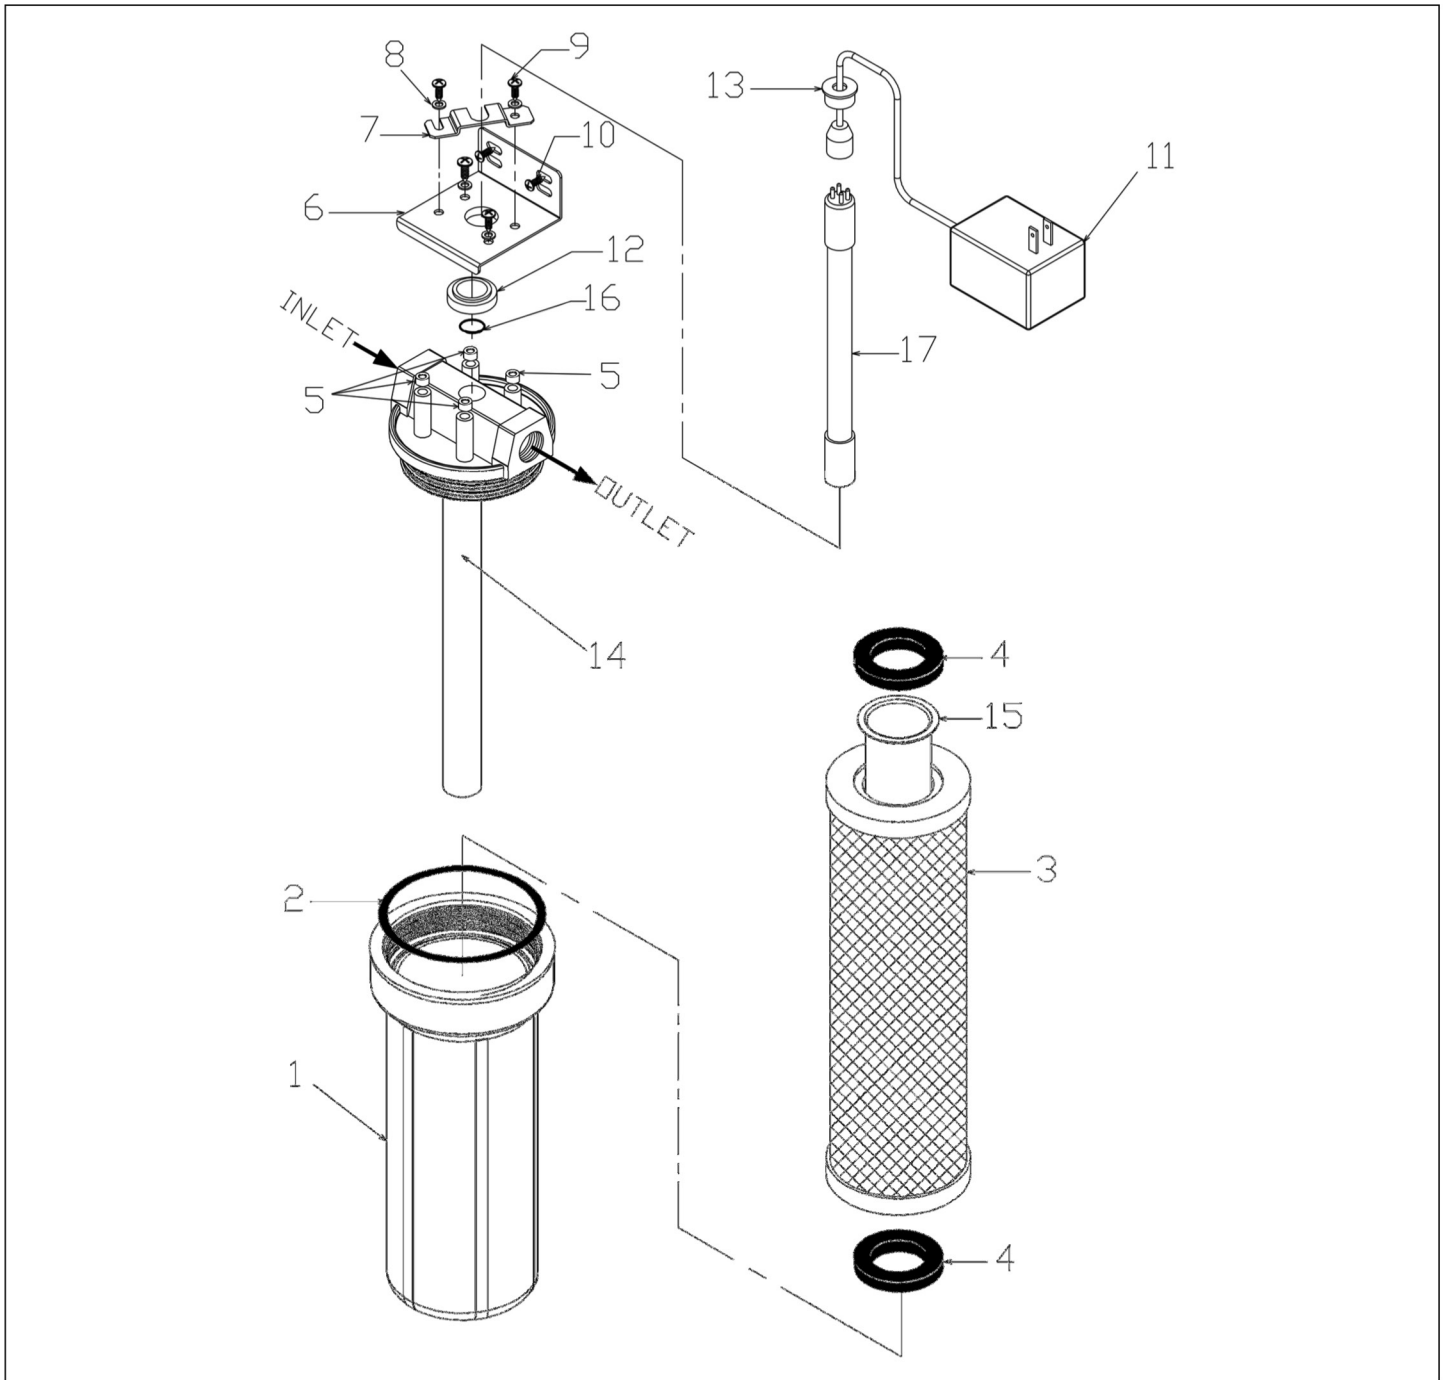

Figure 7 Exploded Schematic, UV1 Series
NOTE: All Item callouts refer to Figure 7.
2. Install EPCB™ Sleeve (Item 15) into EPCB™ Carbon Filter (Item 3) as shown in Figure 7.
3. Insert filter/sleeve assembly into sump as shown in Figure 7 with both Filter Gaskets (Item 4) in place.
CAUTION: Verify that inlet and outlet ports are connected to appropriate inlet/outlet pipes (see Figure 7).